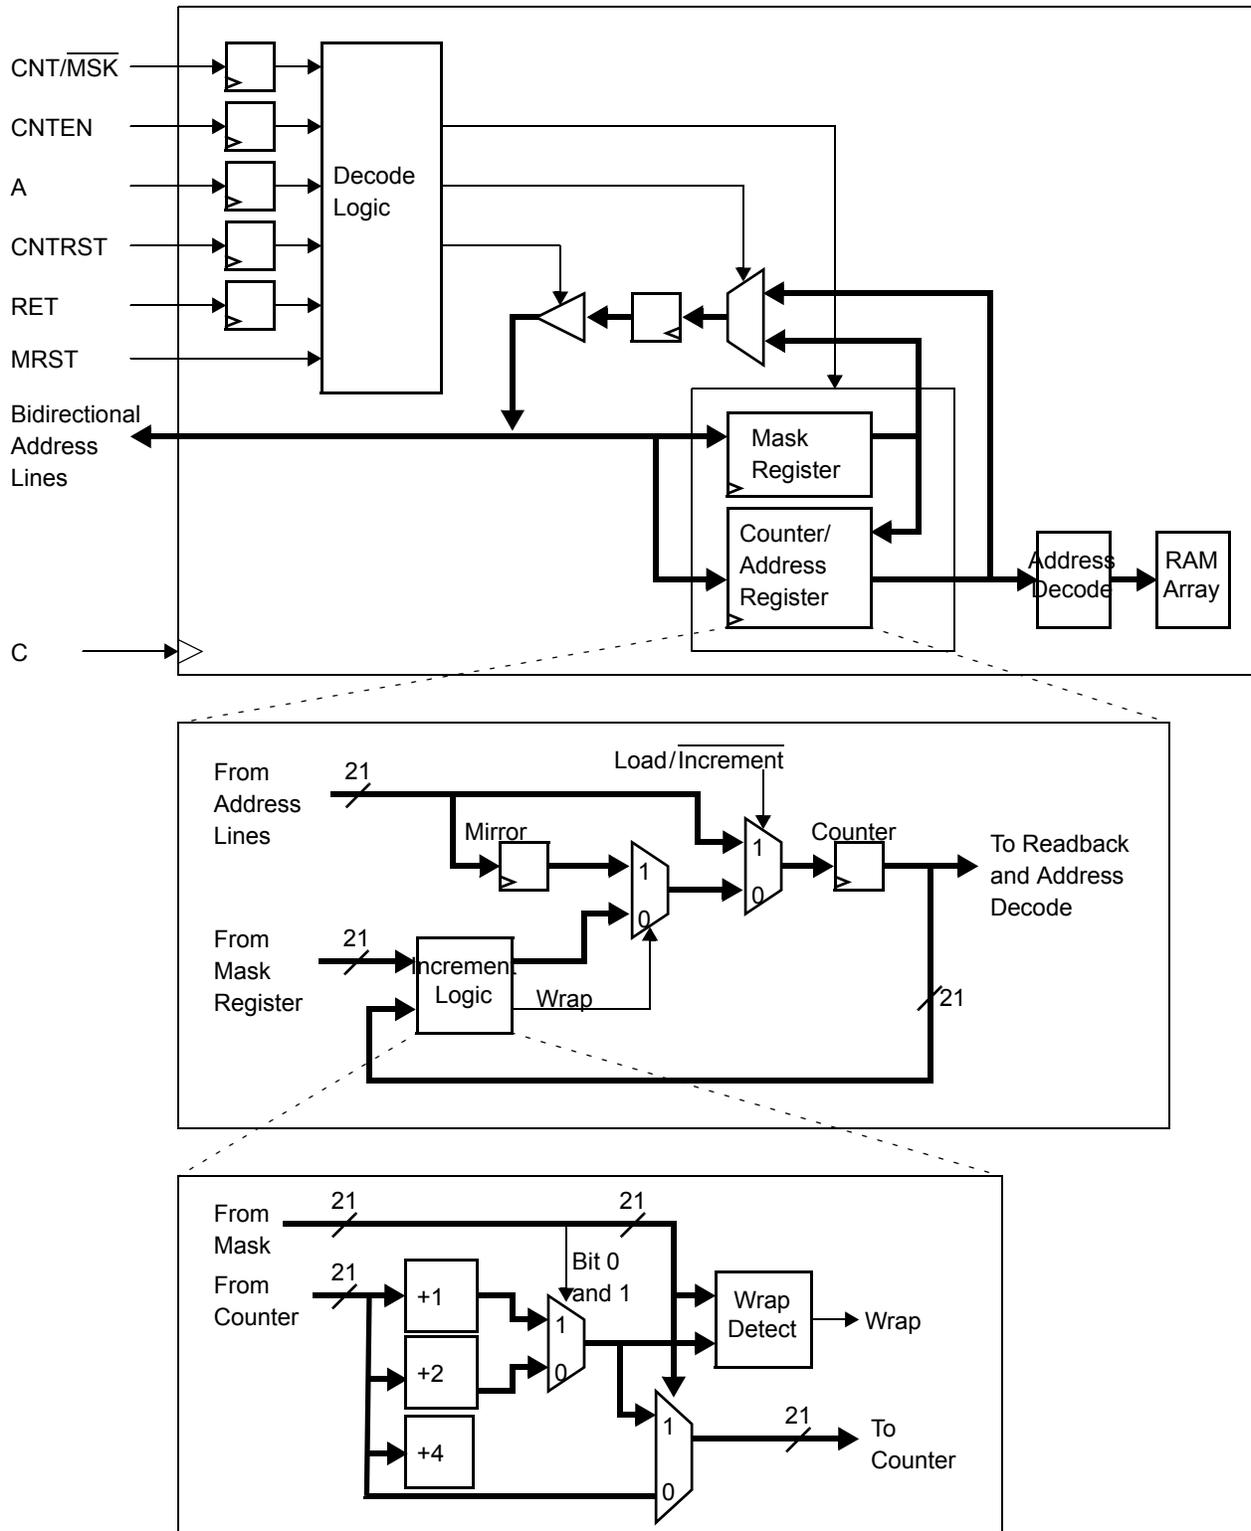

Figure 3. Counter, Mask, and Mirror Logic Block Diagram^[1]
The internal value of the counter register can be read out on the address lines. The address will be valid t_{CA} after the selected number of latency cycles configured by FTSEL. The data bus (DQ) is tri-stated on the cycle that the address is presented on the address lines. Figure 3 shows a block diagram of the operation.
The internal value of the mask register can be read out on the address lines. The address will be valid t_{CA} after the selected number of latency cycles configured by FTSEL. The data bus (DQ) is tri-stated on the cycle that the address is presented on the address lines. Figure 3 shows a block diagram of the operation.